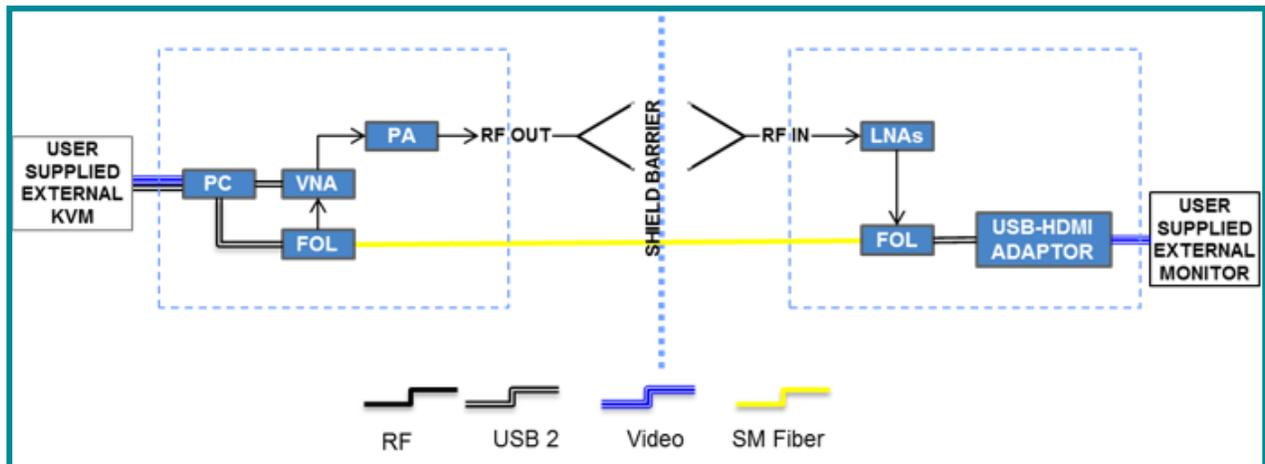

Figure 4. Simplified PAATS Block Diagram
A block diagram of the systems constituent components can be seen in Figure 4. The primary components of PAATS include a vector network analyzer (VNA), TX-RX fiber system (FOL), and WINDOWS 7 control PC. The PAATS application controls the VNA which drives the TX antenna through a power amplifier (PA) with a range of .01mW to 100mW output. The external signal strength is monitored at the same frequency as the transmit system through the RX antenna. The low noise amplifiers LNAs provide gain of 0dB, 26dB, or 52dB. The output of the LNAs is returned to the VNA over a single mode (SM) FOL. USB control and video signals are also sent over the FOL. The PC records the scaled output of the VNA, including the option of a scalar for an external PA on the TX side, or external attenuators or LNAs on the RX side.